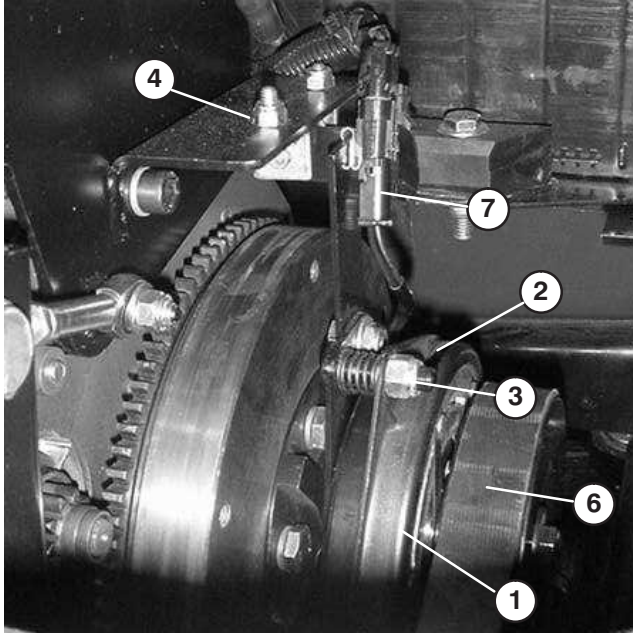

Figure 39
4. Rotate PTO pulley toward the engine and remove the belt (Fig. 39).
2. Remove the left hand clutch retainer bracket nut and bolt so that the retainer bracket rubber bumper can be removed (Fig. 39).
3. Unplug clutch electric connector (Fig. 39).
4. Adjust the air gap so that a .015 inch feeler gauge slides in between the clutch lining and friction plate with light pressure (Fig. 39). The gap can be decreased by turning the adjusting nut clockwise.